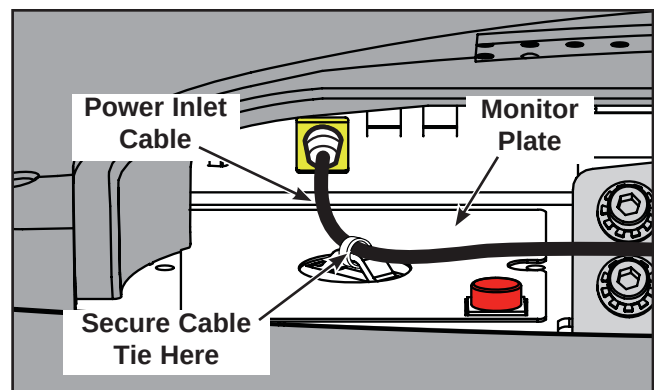

Figure 22
- G.** Secure the power inlet cable to the monitor plate using the cable tie (P). See Figure 22.